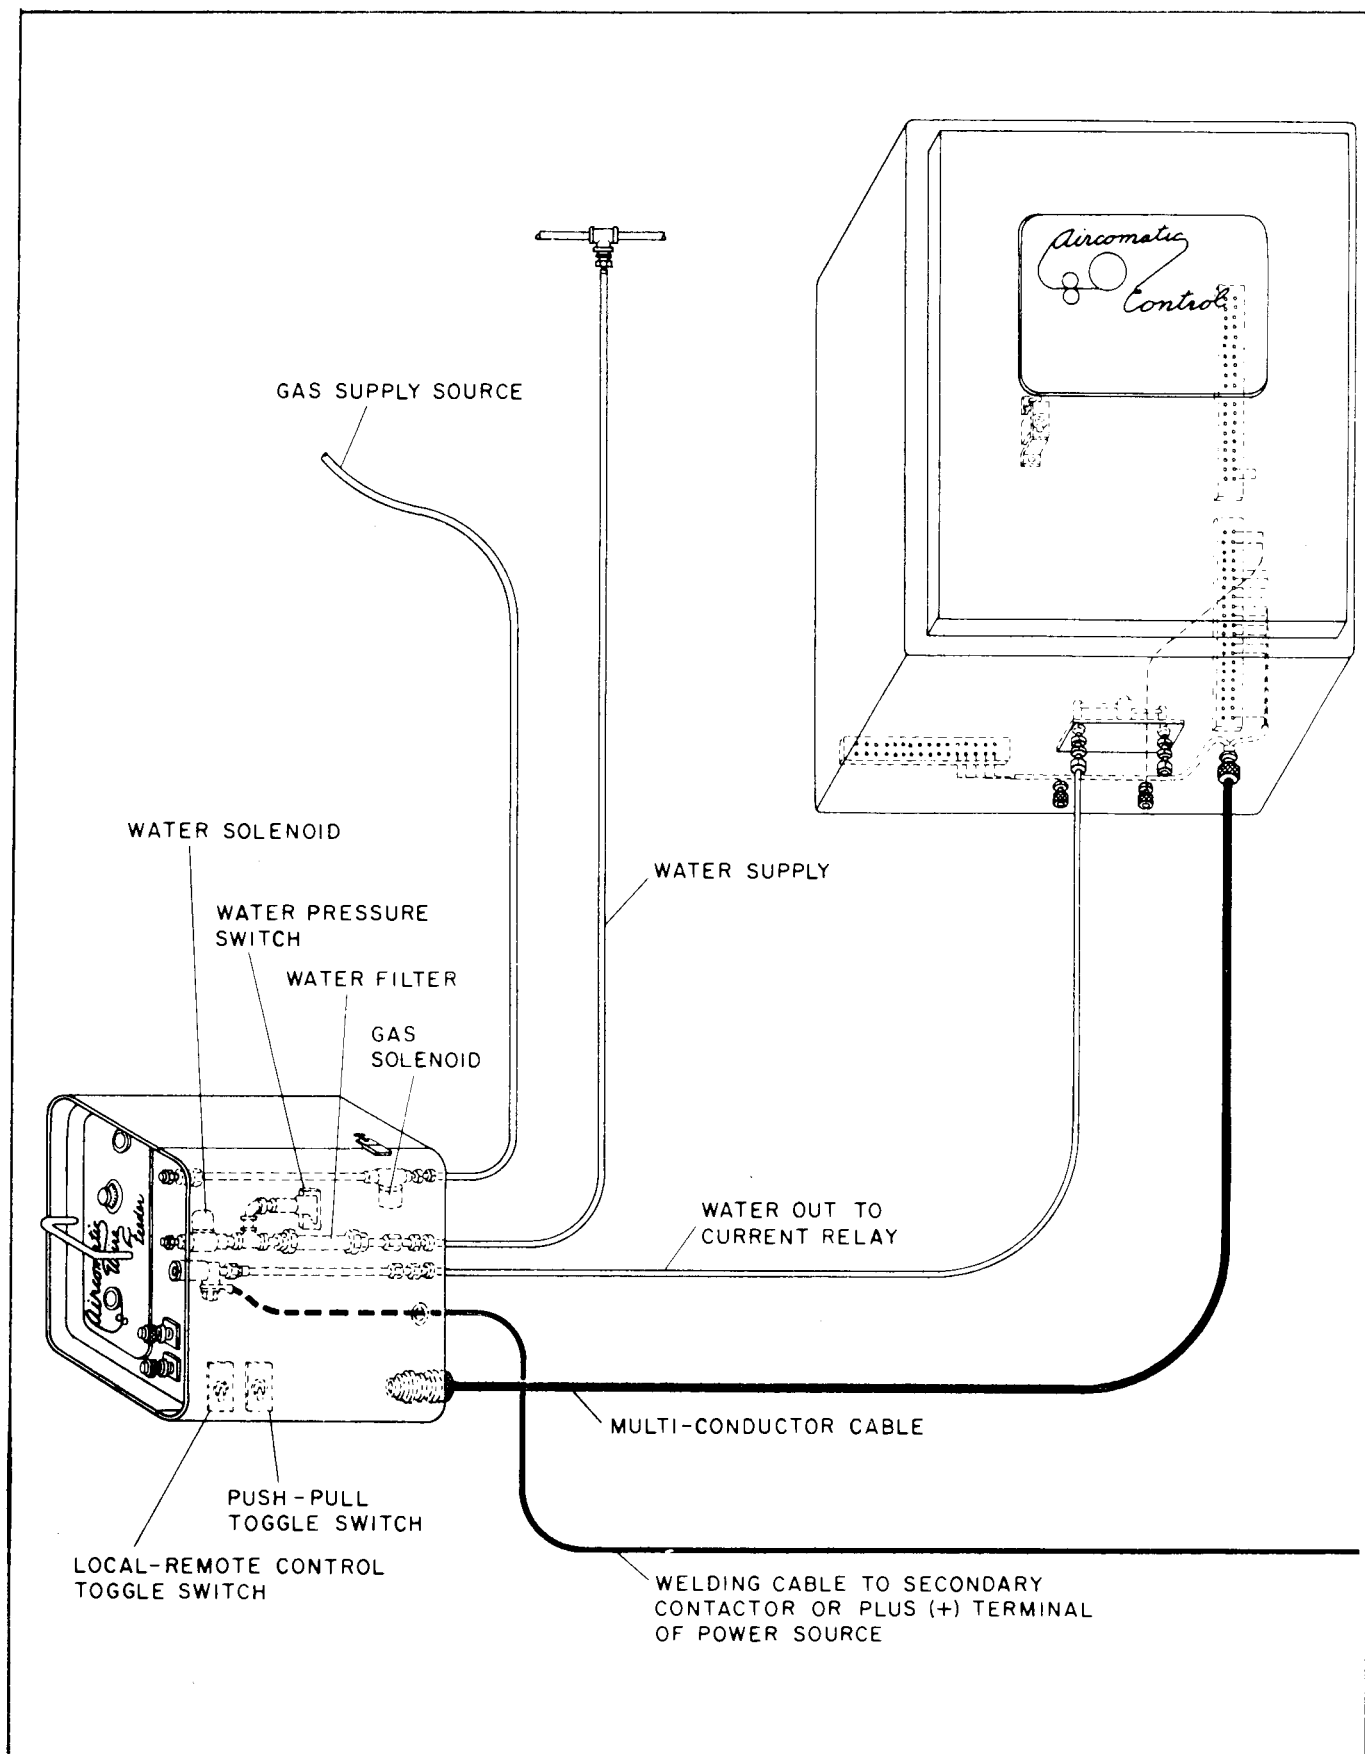

Figure 7. Interconnection Diagram
a. The Feeder is interconnected (Fig. 7) with a Control, welding power source, gun, and (if power source does not contain a primary contactor) a secondary contactor. This requires two water hoses (water-cooled guns only), a gas hose, a multi-conductor cable, and a contactor- to-feeder cable (or power source to feeder). One of the water hoses (water-out-to- relay) and the multi-conductor cable are supplied in a hose and cable kit available in three sizes as shown in Table II. The other water hose is a customer-furnished,